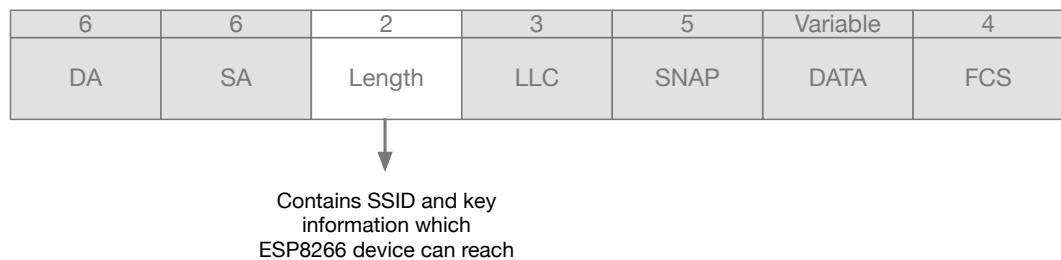

Figure 1-2 Data Packet Structure
Since the device is not connected to the network at the beginning, the ESP-TOUCH application cannot send any information to the device directly. With the ESP-TOUCH communication protocol, a device with Wi-Fi access capabilities, such as a smartphone, can send a series of UDP packets to the Wi-Fi Access Point (AP), encoding the SSID and password into the Length field of each of these UDP packets. The device can then reach the UDP packets, obtaining and parsing out the required information. The data packet structure is shown in Figure 1-2: